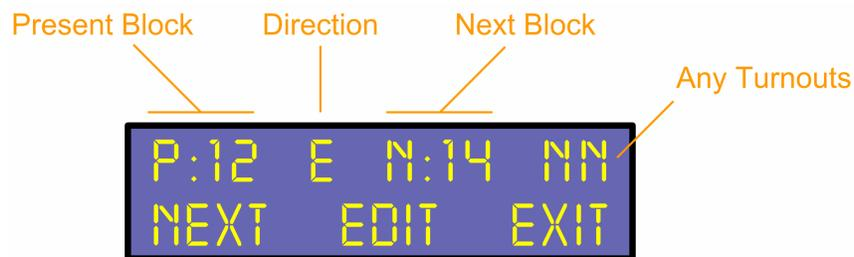

Figure 21. Layout Editing Mode
To edit the data, press the MODE button three times and select OTHER MODE. Now select LAYOUT MODE. Press the CHECK button and cycle through the blocks until the block (P) you want to edit is shown; see Figure 21. Press EDIT and follow the prompts. You can also change Block Types, but you cannot change the crossings or reverse loops settings without clearing the memory.